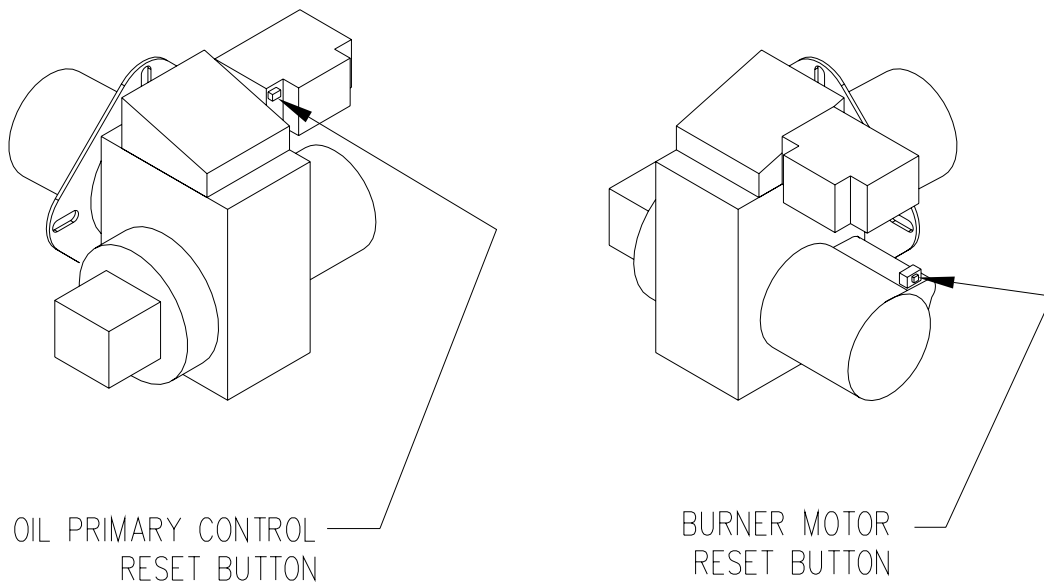

Figure 14: Location of Reset Buttons on the Burner Primary Control and the Burner Motor
3. Check to see if the LED on the burner primary (ignition) control module is flashing at a rapid rate. If so, the control may have "locked out". To recycle the control system, depress the reset button. Refer to Figure 14.